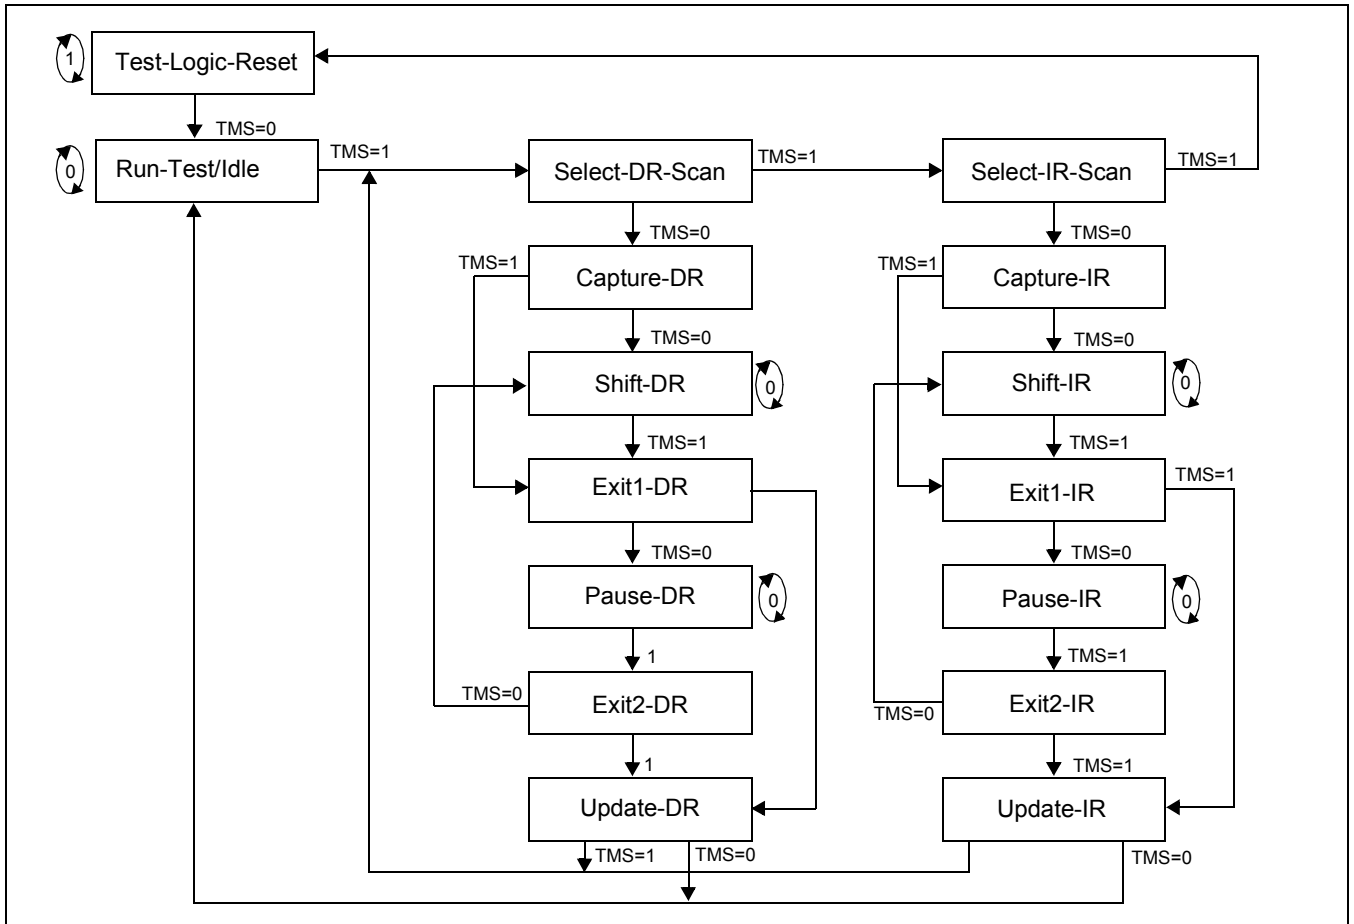

Figure 26-2: TAP Controller State Machine
- TMS is the test mode input and controls the state changes during test operations (see Figure 26-2: “TAP Controller State Machine,” on page 565). TMS is sampled on the rising edge of TCK.
JTAG operation is controlled by a state machine called the TAP controller. Figure 26-2: shows the states of the TAP controller. Transitions between each of the 16 states are controlled by the value of TMS at the rising edge of TCK. The TAP controller has three main states and two possible paths. All other states are temporary states or allow changes in flow.